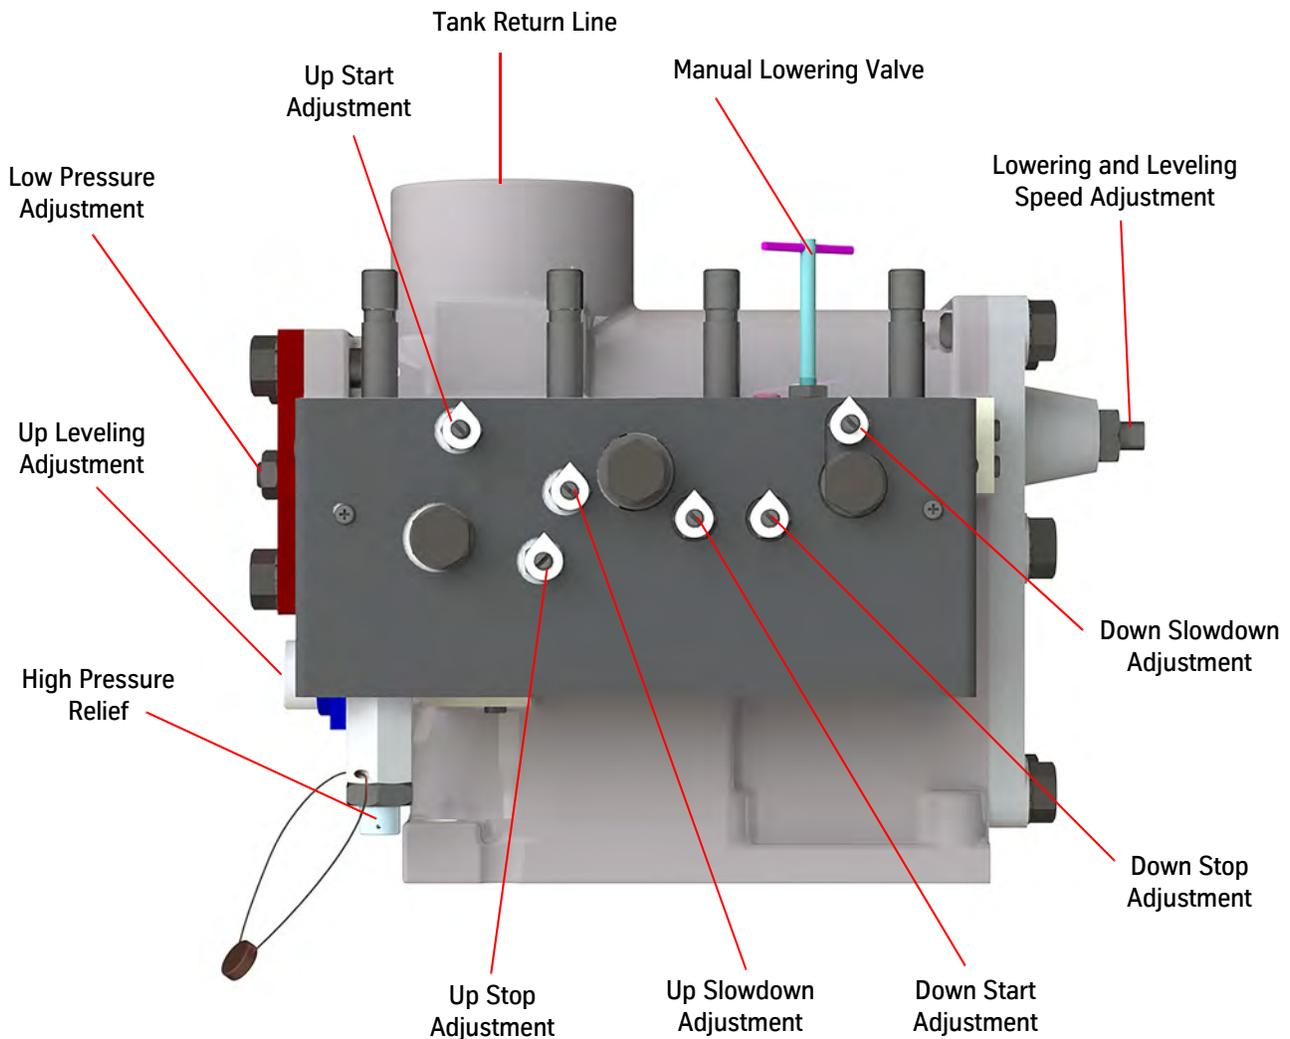

Figure 9 - I-2/I-3 Valve Details
The Up Slowdown adjustment screw is a sensitive adjustment. Use small increments to change the adjustment. See Figure 9 on page 2-27.
1. Adjust Up Stop for a soft but positive stop. See Figure 9 on page 2-27.
- a. Turn the Lowering Speed adjustment in one-half turn increments. See Figure 9 on page 2-27.
2. Adjust Down Stop for a positive stop. See Figure 9 on page 2-27.
2. Adjust the Down Start to obtain a smooth start. Ensure that the car achieves full speed on a one-floor run. If not, make Down Start more positive. See Figure 9 on page 2-27.
1. Turn Down Slowdown out in small increments until the car has a leveling zone of 3–4 inches. See Figure 9 on page 2-27.